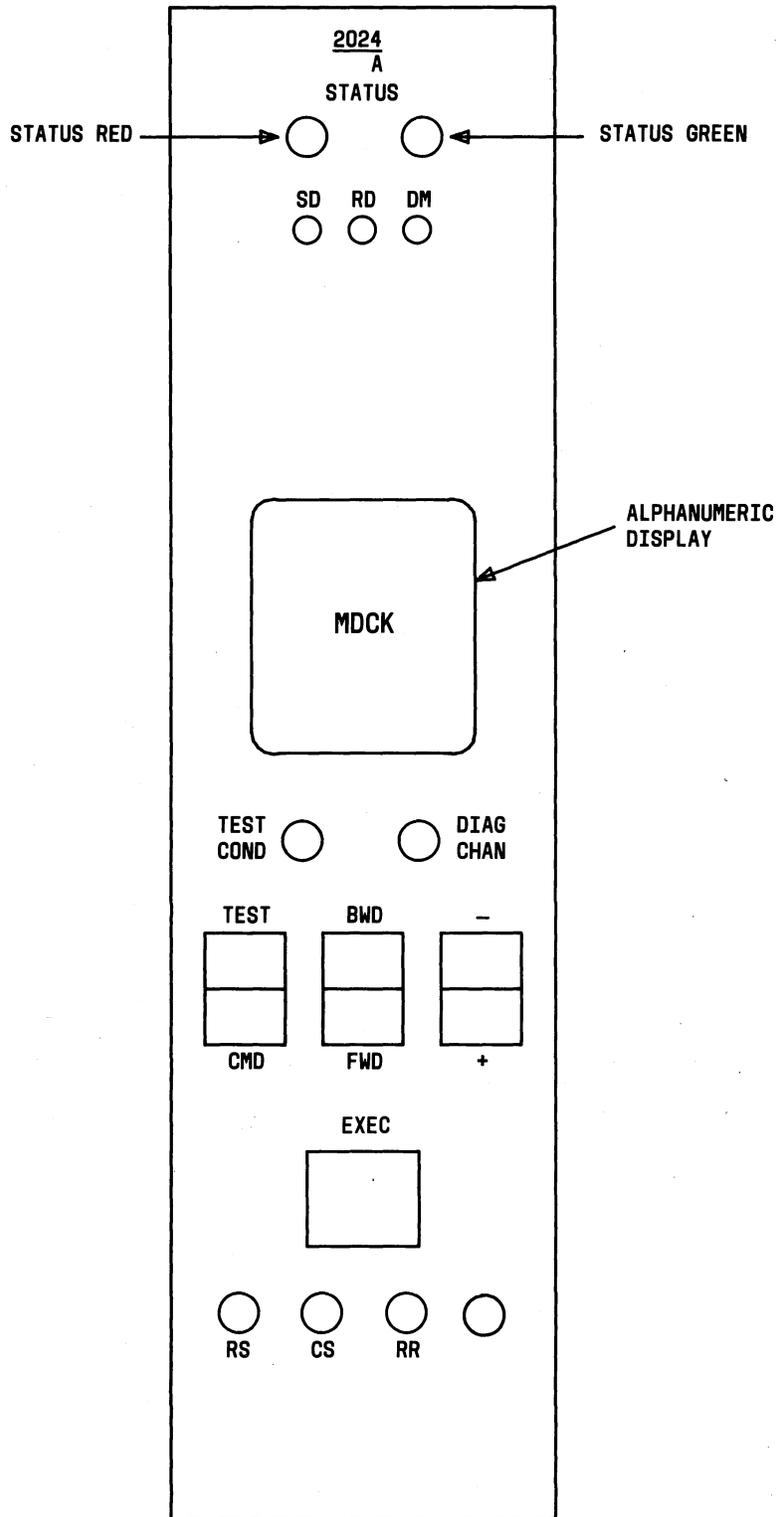

Fig. 7—DS 2024A Front Panel (Private Line Data Set)
**2.07** The data set faceplates (Fig. 7, 8, and 9) contain an alphanumeric display and certain switches and indicators with the number of indicators being different for each type of data set (DS 2024A,